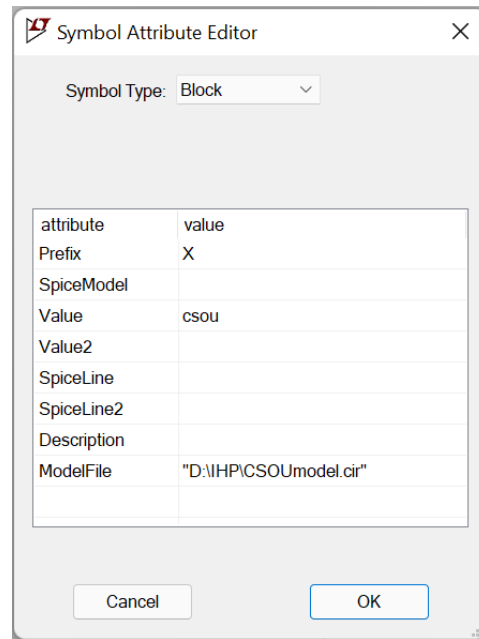

Fig. 11. Symbol attribute settings
14. The following is the assignment of the netlist to the symbol: Edit / Attributes / Edit Attributes. The name of the subcircuit should be entered in the field Value, and the path to the subcircuit should be entered in the field ModelFile (Fig. 11).